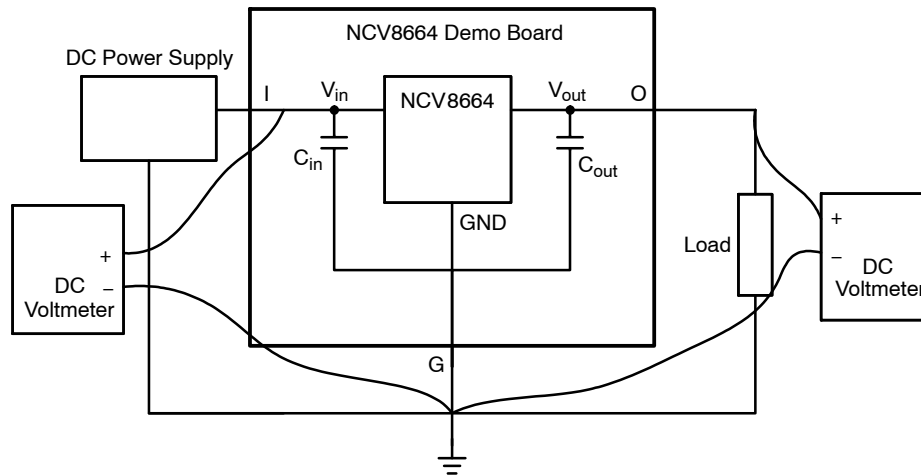

Figure 9. Quiescent Current Verification Setup
1. Connect circuit as shown in Figure 9.